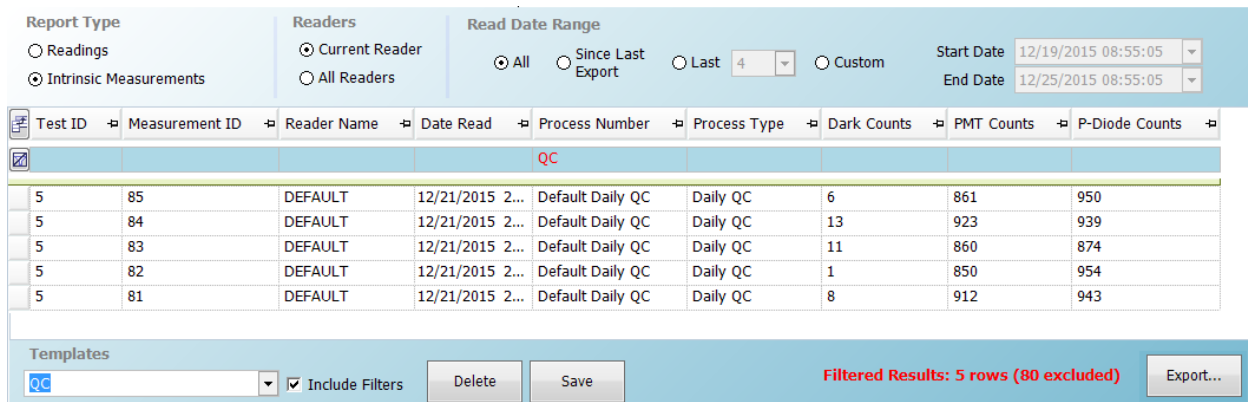

Figure 8-9: Data Report Template
- STEP 4:** Enter a template name in the *Templates* field at the bottom of the screen (Figure 8-9).